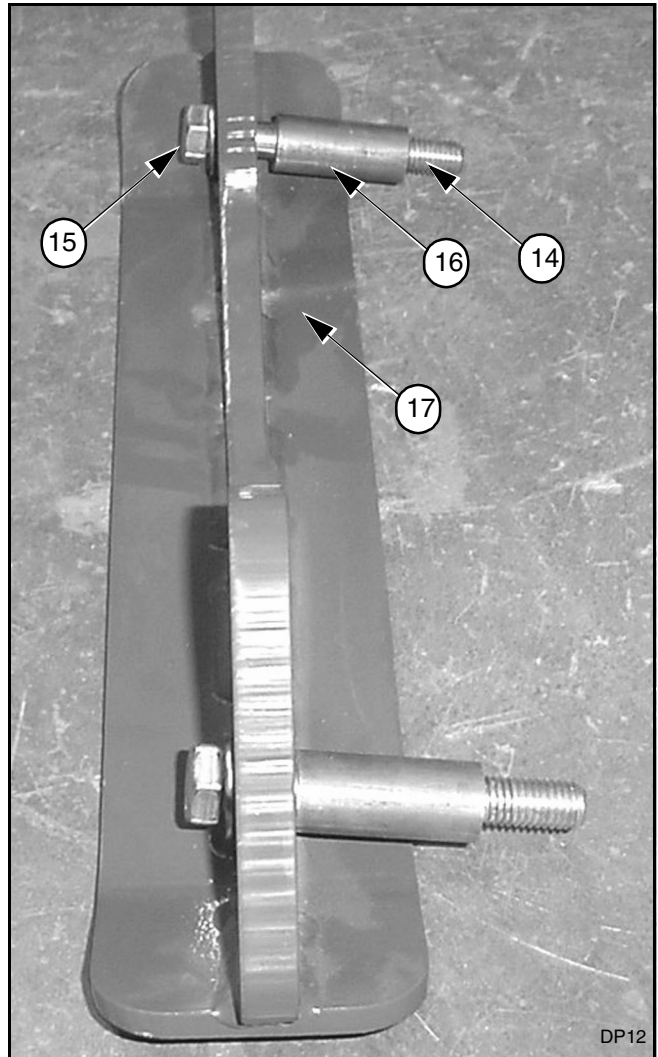

Figure 21.
Install two 5/8" x 4-1/2" bolts (14) and two 5/8" washers (15) in each depth skid (17) as shown in Figure 21. Slide the two bushings (16) onto the 5/8" bolts.